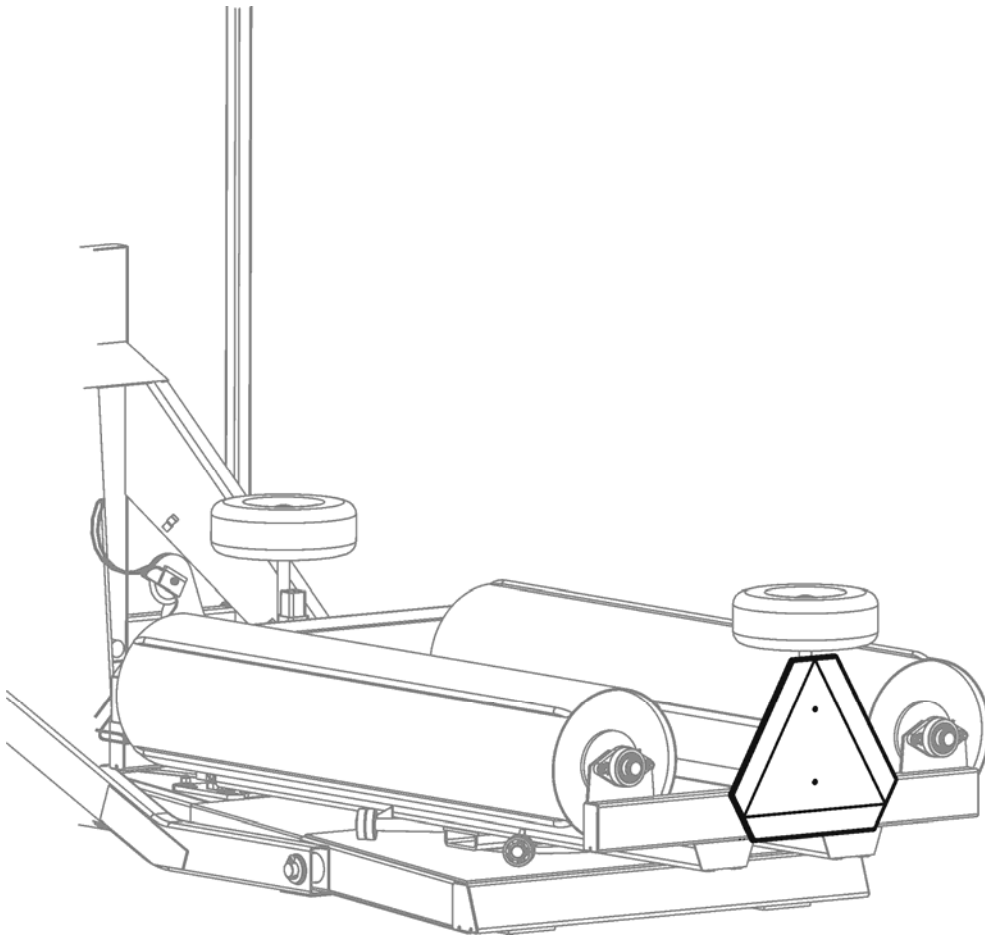

FIG. 3. LOCATION OF THE PLATE FOR SLOWLY MOVING VEHICLES.
- On the console of the rear roller should be installed a triangular plate for slowly moving vehicles (fig. 3).